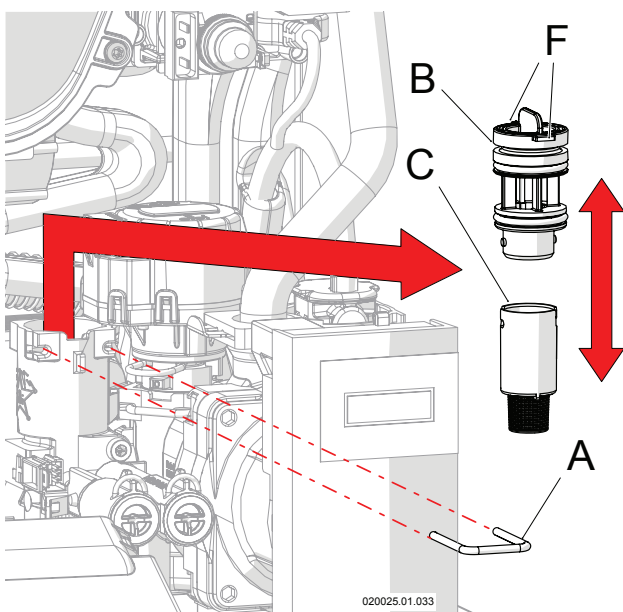

Figure 8-15 – Removing the flow meter
The flow meter is used to measure the domestic hot water flow rate. If it needs to be replaced, proceed as follows (refer to figure 8-15):
- 7.- When refitting the flow meter, the two tabs (detail “F” in figure 8-15) must be slotted into the respective holes in the hydraulic unit (the largest towards the front of the appliance and the small one at the rear).